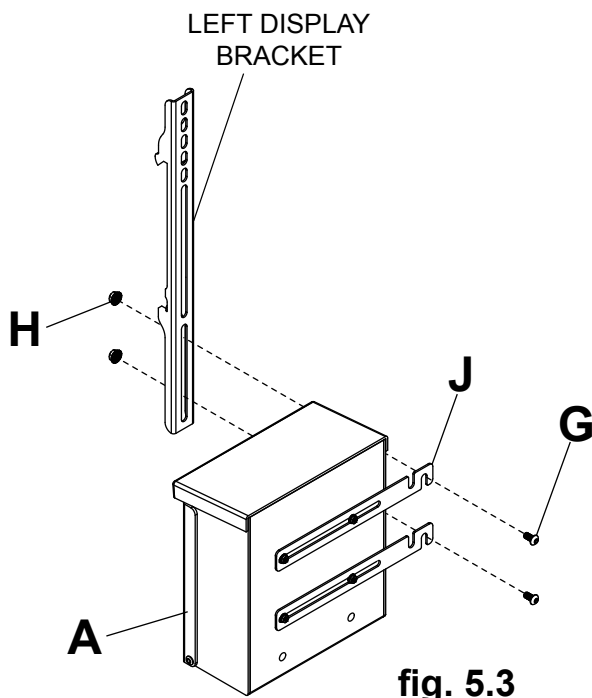

fig. 5.3
- 5-1** Attach two mounting brackets (J), open end of notch facing downward, to the left display bracket with two 1/4-20 x 1/2 socket head screws (G) and two 1/4-20 nuts (H) as shown in fig. 5.3. Once in position, tighten the 1/4-20 x 1/2 socket head screws (G) using 4mm allen wrench (L).